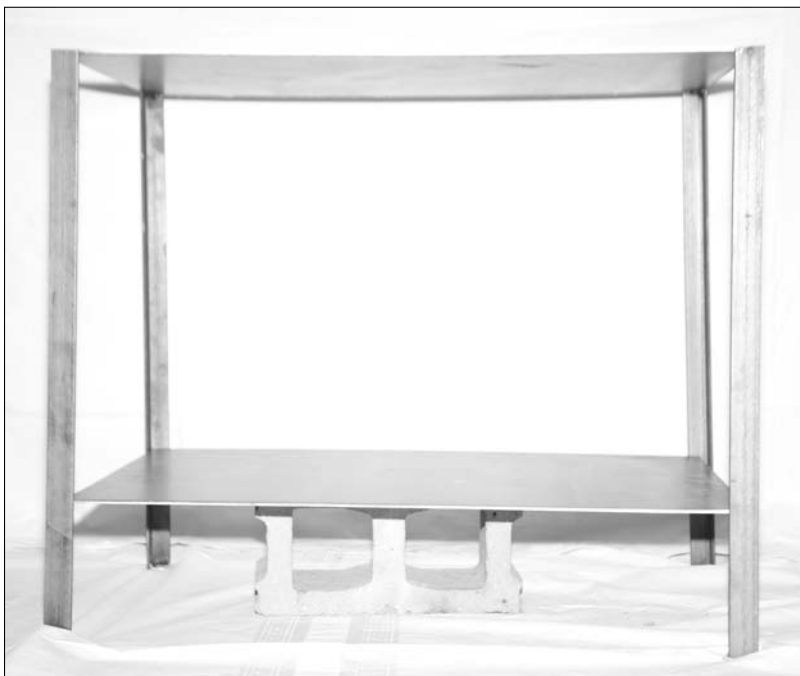

Figure 16-8:
7. Put the spacers underneath each of the legs so that the table is elevated several inches off the floor (see Figure 16-8).